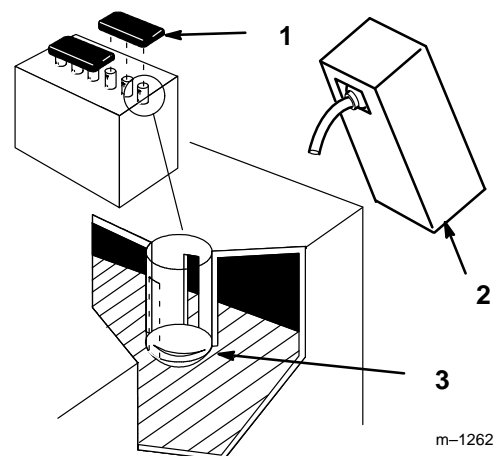

Figure 5
2. Remove filler caps from the battery. Slowly pour electrolyte into each cell until the electrolyte level is up to the lower part of the tube (Fig. 5).
- Slowly pour electrolyte into each cell until the level is once again up to the “UPPER” line on the battery case (Fig. 5) and install covers.